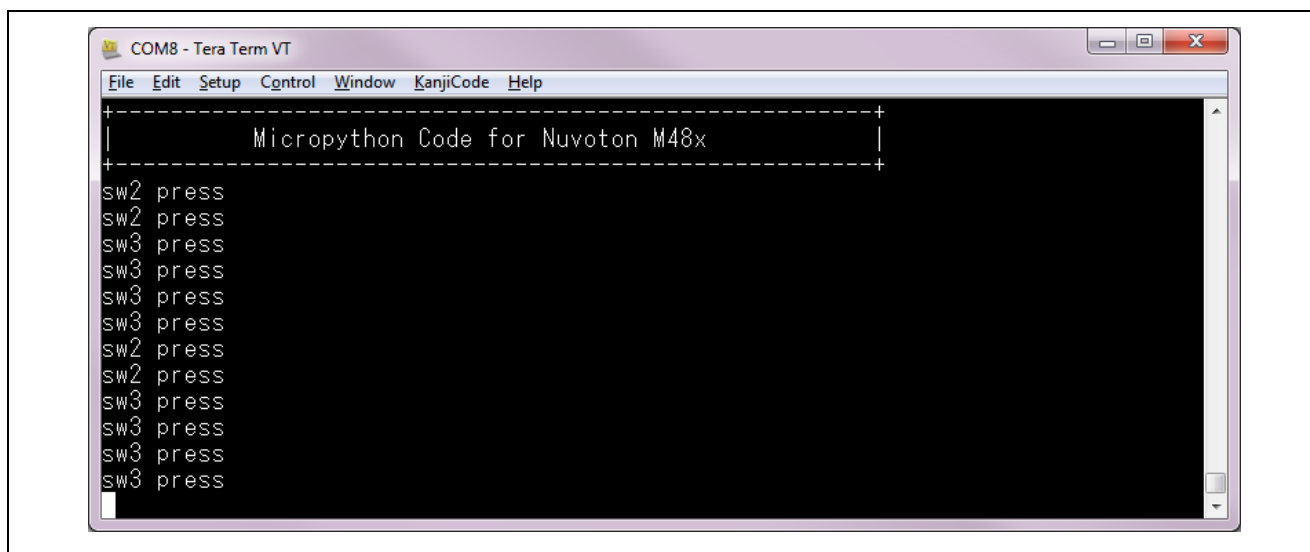

Figure 3-7 Execute Switch Button Example Code
4. Press the RESET button (Figure 3-7).